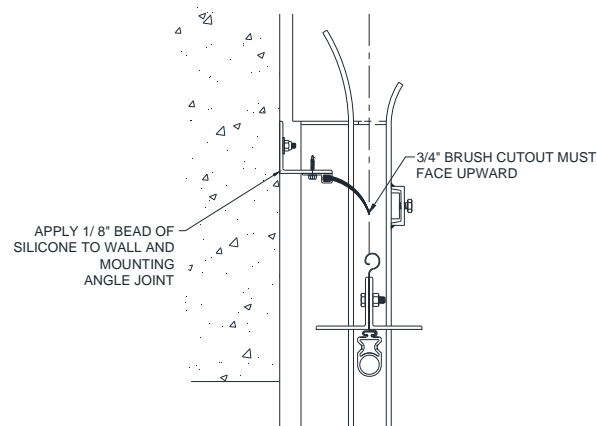

Figure 9.3 - "L" Shaped Lintel Seal
8. Once lintel seal is mounted in place apply silicone to the location identified below in *Figure 9.3*.